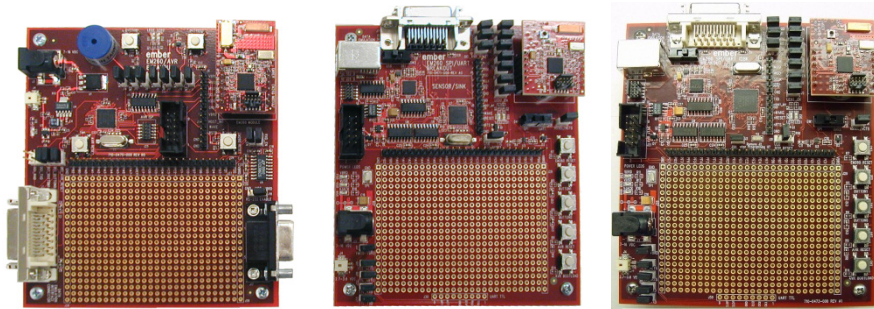

Figure 1. SPI-only (left) vs. SPI/UART 32kB (middle) vs. 128kB (right)
**Warning:** Please clearly identify the EM260 hardware version you are using. The EM260 SPI/UART RCM (130-0461-000) mates with either the EM260 SPI/UART Breakout Board (130-0471-000) or the EM260 SPI/UART 128kB Breakout Board (130-0473-000). The EM260 SPI-only RCM (130-0460-000) mates with the EM260 SPI-only Breakout Board (130-0470-000). These hardware versions are not compatible with each other. See Figure 1 to identify which hardware version you are using—SPI-only is on the left and SPI/UART is on the right. If you are using the SPI-only version, please contact Customer Support if you have any issues with your hardware.
Figure 1 shows the SPI-only Breakout Board on the left and the SPI/UART Breakout Board on the right.